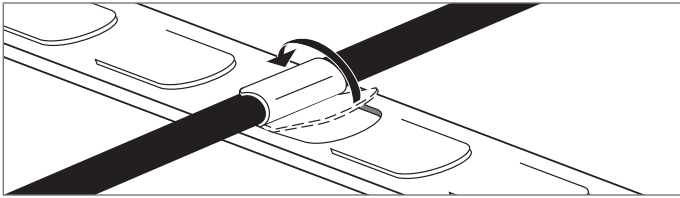

FIGURE 2.41a: Pre-Punched Stainless Steel Strapping
4. Unreel a cold lead. Secure the hot/cold joint to mastic asphalt base layer by bending back the pre-punched strapping tabs. Space the hot/cold joint at least 6" (150mm) in from the edge of the slab. See Figure 2.41a.
5. Unreel heating cable in a serpentine pattern over mastic asphalt base layer, spacing the runs as per installation plan. Using pre-punched strapping, secure heating cable to mastic asphalt base layer. See Figure 2.41a.